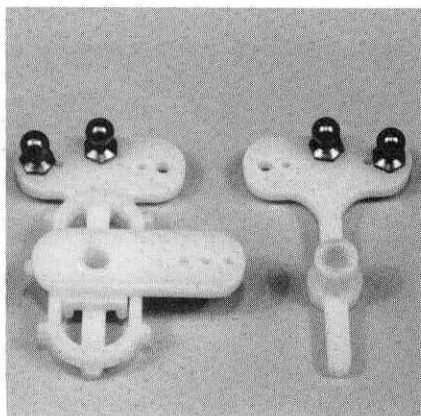

Fig. 21
- ☐ **Fig. 21** And install it to the servo saver, as shown.